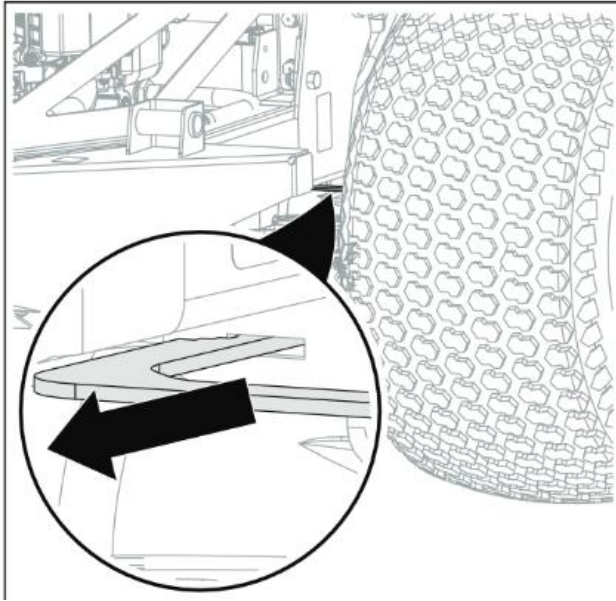

Figure 32
2. Pull both transaxle bypass levers out into bypass position. See *Figure 32*.